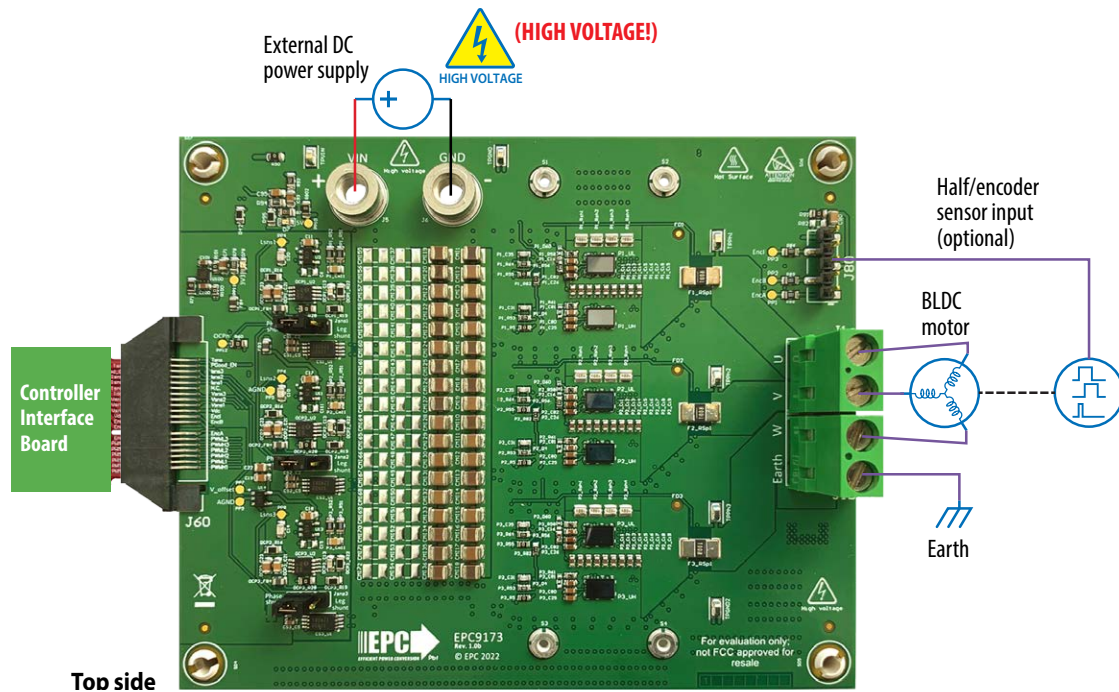

Figure 5: Connection diagram of the EPC9173 configured as a motor drive inverter
A 3-phase BLDC motor drive inverter is the primary application case for which the EPC9173 board was designed for and can be used for either sensor-less or shaft encoder sensor configurations. The motor drive controller options are given in table 4 giving the user various mainstream choices that leverage existing resources to simplify and speed up development and evaluation. Figure 5 shows the simplicity of connecting a controller and motor to the EPC9173. **In the default configuration, the EPC9173 is paired with the EPC9147C that is preprogrammed to power and control a NEMA 34 size motor from Teknic M-3411P-LN-08D, with DC supply voltage of 48 V using sensor-less field orientated control with space vector pulse width modulation (SVPWM).**
2. Connect the correct motor, whose parameters are programmed into the controller, to the EPC9173 at connector J1 and the DC power supply at connectors J5 and J6 (**Observe correct polarity, there is no inverse polarity protection on board**) and shown in figure 5.